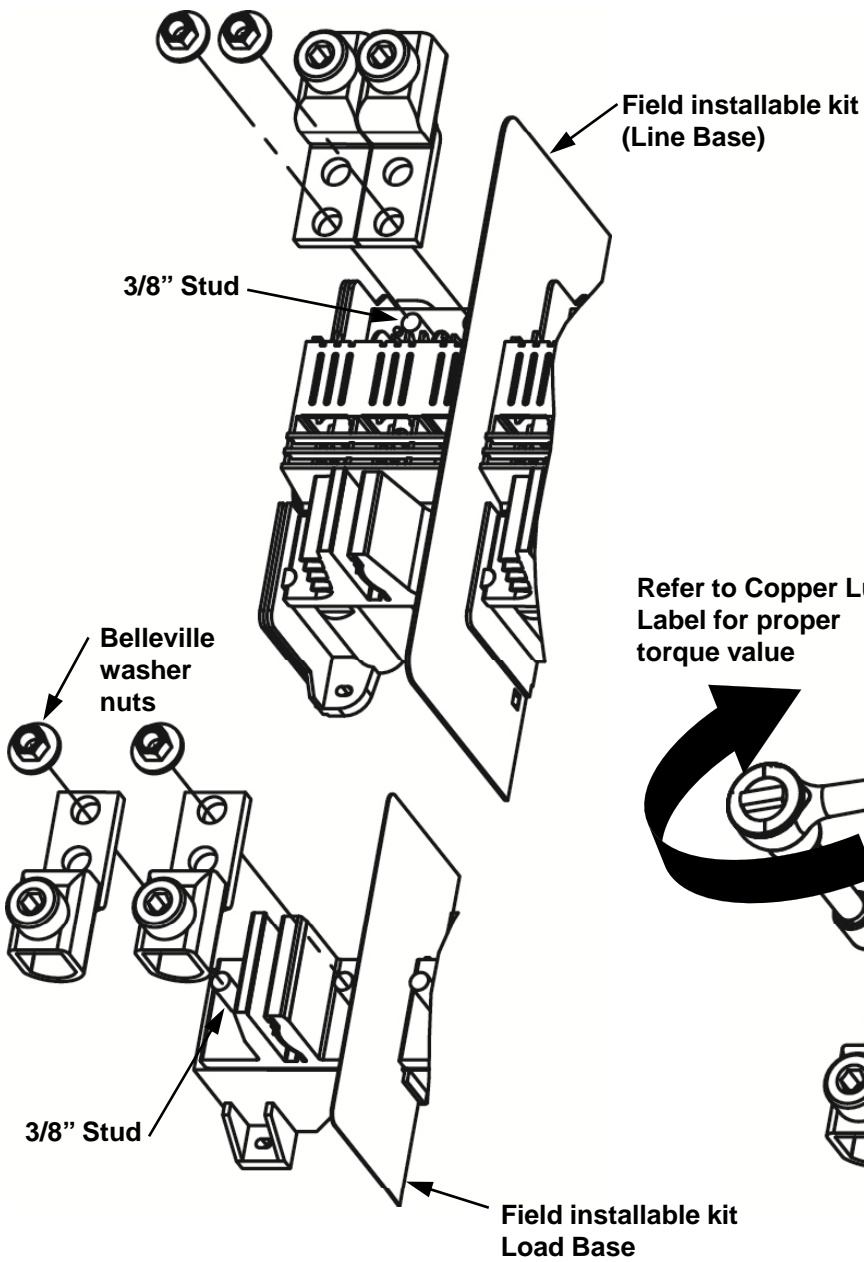
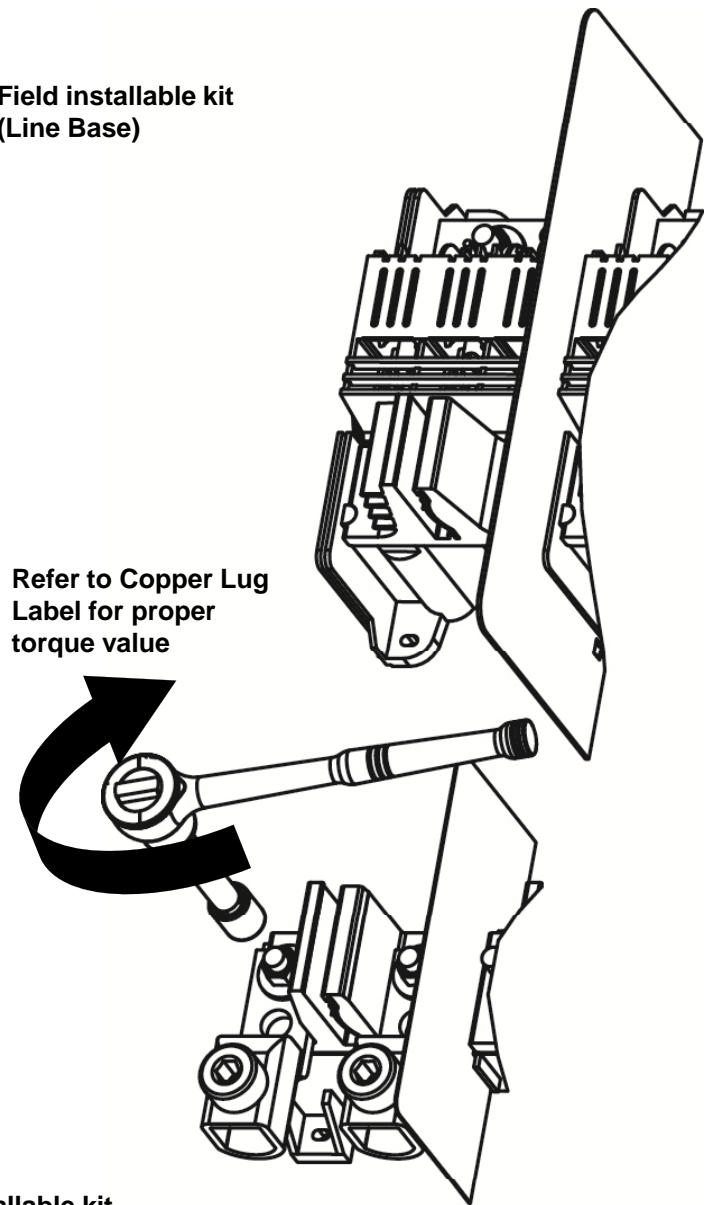

Fig. 2
Fig. 3
3. Align the Copper Lug over 3/8" stud, reinstall belleville washer nuts, 3/8" x 16 UNC 2B as shown in Fig. 2. Torque belleville washer nuts as shown in Fig. 3.
4. Align the Copper Lug over 3/8" stud, reinstall belleville washer nuts, 3/8" x 16 UNC 2B as shown in Fig. 2. Torque belleville washer nuts as shown in Fig. 3.